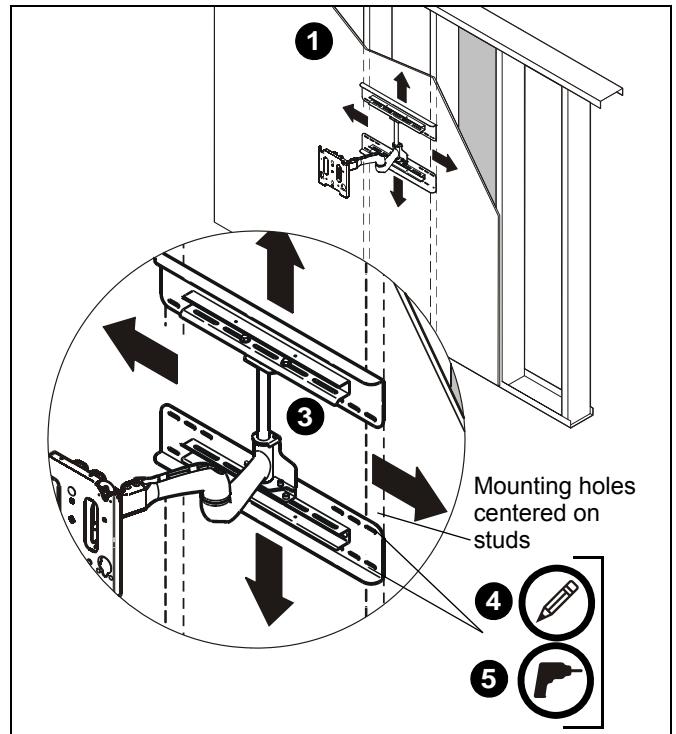

Figure 2
WARNING: IMPROPER INSTALLATION CAN LEAD TO MOUNT FALLING CAUSING SERIOUS PERSONAL INJURY OR DAMAGE TO EQUIPMENT! Make sure upper and lower mounting holes are used on both sides of both the upper and lower wall plates. (See Figure 2)
2. Using a stud sensor locate two wood studs 16" apart on center. (See Figure 2)
3. Using two people, place mount against wall and level mount aligning mounting holes in upper and lower wall channels with studs. (See Figure 2)
4. Using a pencil mark eight mounting holes making sure mounting holes are located as close as possible to center of studs. (See Figure 2)
5. Drill eight pilot holes where the mounting holes were marked using a 5/32" (4mm) drill bit. (See Figure 2)
3. Align mounting holes in mount with studs making sure mounting holes are centered on studs. (See Figure 2)
4. Using a pencil, mark eight mounting holes making sure mounting holes are located as close as possible to center of studs. (See Figure 2)
5. Drill eight holes where the mounting holes were marked using a 1/2" (Ø13mm) drill bit. (See Figure 2)